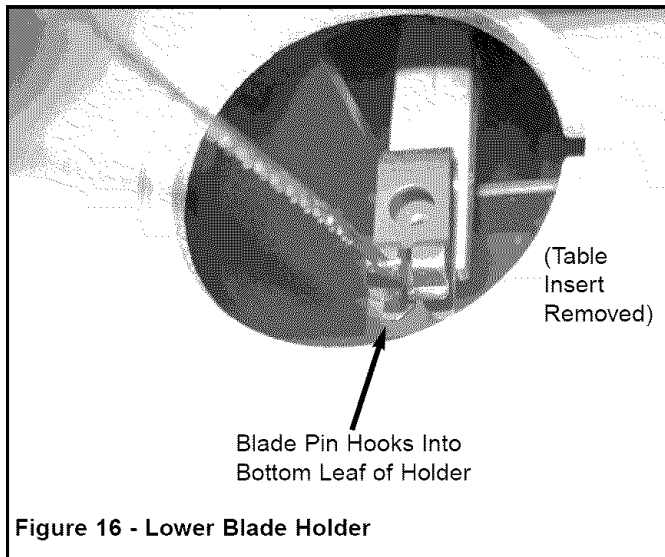

Figure 16 - Lower Blade Holder
- Insert new blade into the lower holder first and then into the upper holder (see Figures 16 and 17).